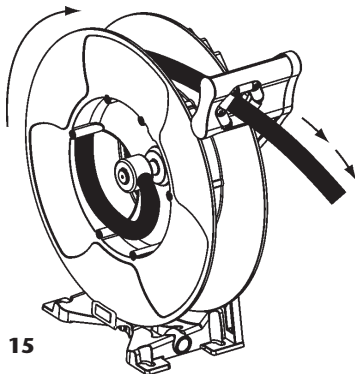

Fig. 15
1. Pull the hose out and let the hose reel latch (fig. 15).